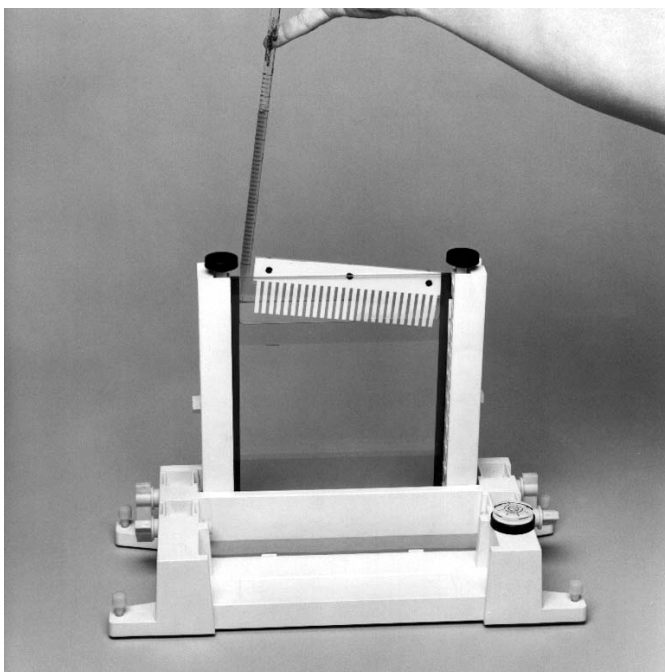

**Fig. 4.19. Aligning spacers in the sandwich assembly.**
5. Place the sandwich assembly in the alignment slot (the slot without cams) of the casting stand with the short glass plate forward (Figure 4.19). Loosen the sandwich clamps and insert an alignment card to keep the spacers parallel to the clamps.
- Align the plates and spacers by simultaneously pushing inward on both clamps at the locating arrows while pushing down on the spacers with your thumbs. Tighten both clamps just enough to hold the sandwich in place. Pushing inward on both clamps at the locating arrows will insure that the spacers and glass plates are flush against the sides of the clamps (Figure 4.19).